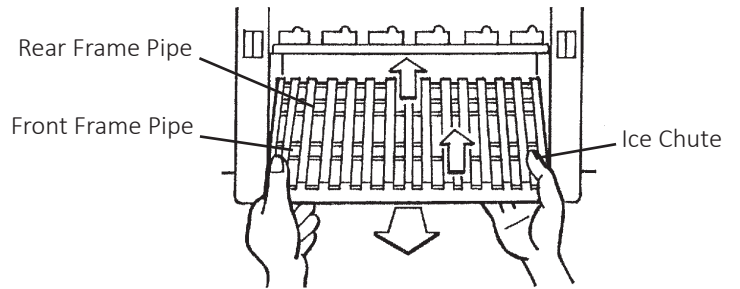

Fig. 31
- 6) Lift off the ice chute from the frame pipe and then from the rear frame pipe. See Fig. 31.
2) Close the water supply line shut-off valve, then open the water supply line drain valve. See Fig. 31.